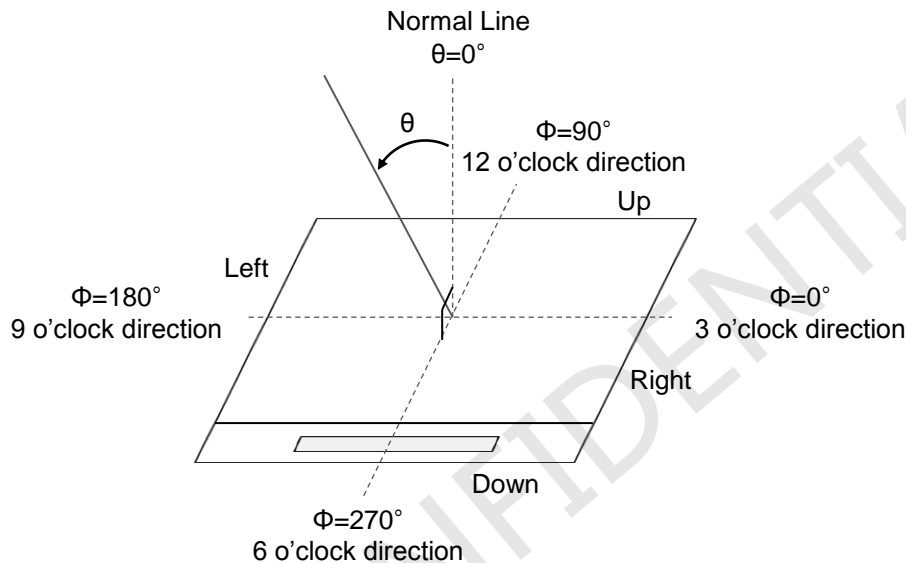

Fig.1 Viewing angle measurement setup
Note 1. Viewing angle is the angle at which the contrast ratio is greater than 10. The viewing angles are determined for the horizontal or 3, 9 o'clock direction and the vertical or 6, 12 o'clock direction with respect to the optical axis which is normal to the LCD surface (FIGURE 1).
Note 2. Contrast ratio measurements shall be made at viewing angle of  $\theta=0^\circ$  and at the center of the LCD surface. Luminance shall be measured with all pixels in the view field set first to white, then to the dark (black) state (FIGURE 1). Contrast Ratio (CR) is defined mathematically.